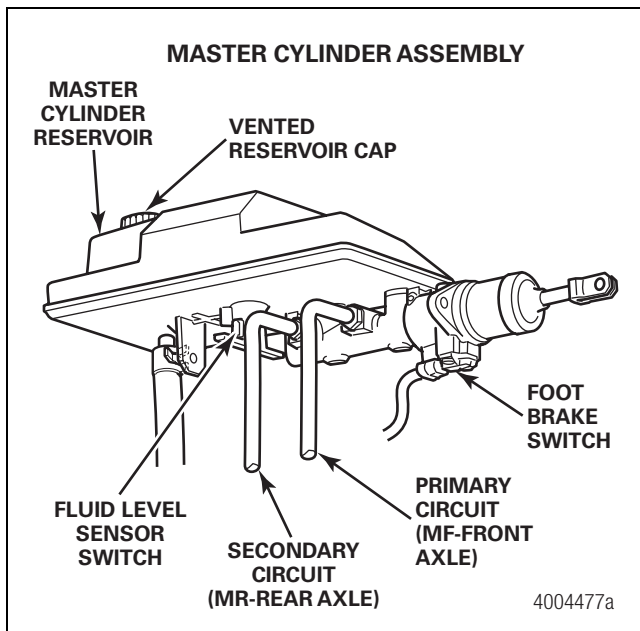

Figure 4.47
4. Connect the fluid level switch on the master cylinder reservoir. Figure 4.47.